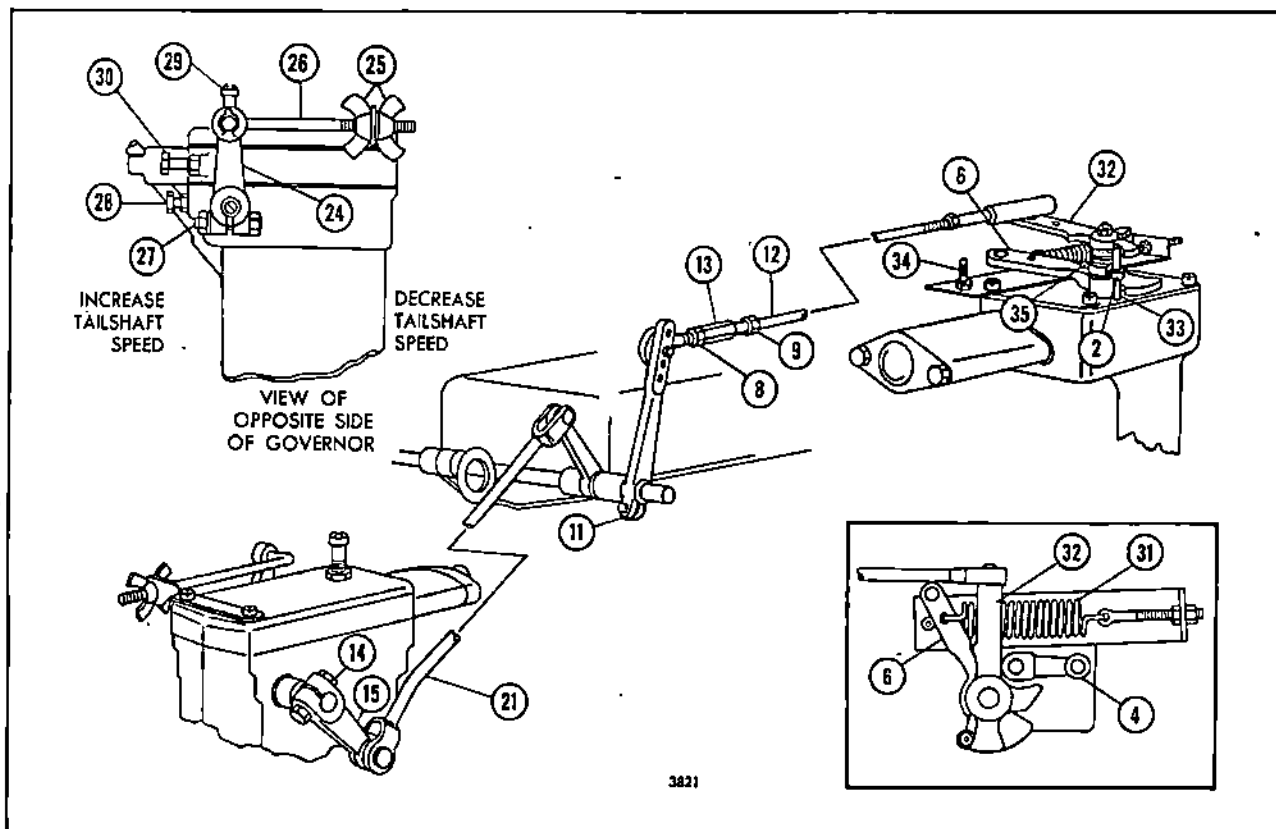
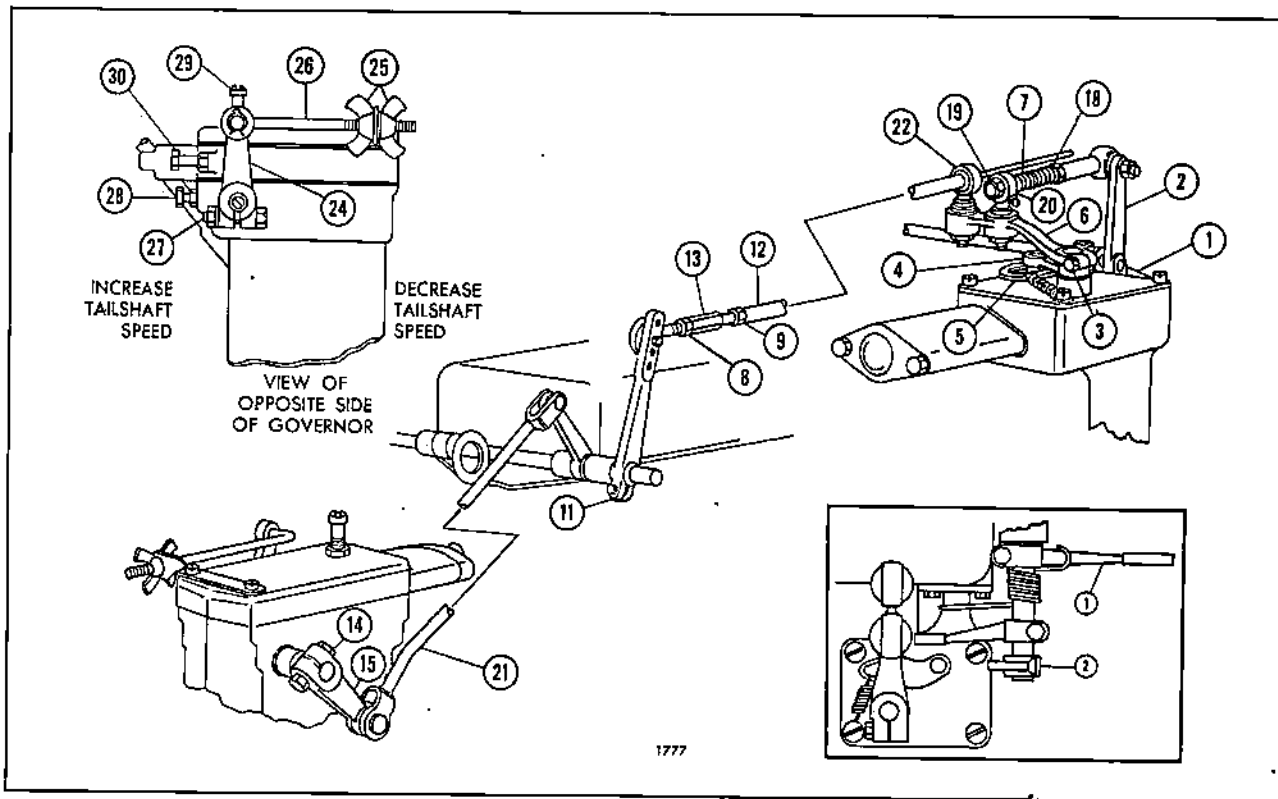

Fig. 22 - Hydraulic Output Shaft Governor and Linkage (Type A)
Fig. 23 - Hydraulic Output Shaft Governor and Linkage (Type B)
The output shaft governor is connected to the engine governor by control rods and levers (Figs. 22 and 23). The control rod end ball joints are sealed assemblies and do not require lubrication. However, the throttle control shaft bearings should be lubricated periodically with all purpose grease through the grease fittings. Other moving parts of the control linkage should be lubricated with engine oil.
In some types of operation, such as laying of structural steel, it is desirable to operate the unit with a very low output shaft speed. This speed could be so low that the output shaft governor ball head assembly would not actuate the governor pilot valve and spring seat assembly. In such applications, the engine governor operating lever (6), Fig. 22, or the remote throttle control lever (1), Fig. 23, used as an overrule lever, can be moved toward the idle speed position sufficiently to provide the desired low output shaft speed. Output shaft speeds down to zero can be obtained through this type of engine governor control. The engine governor would maintain control unless the output shaft speed increased to the speed setting of the output shaft governor.
Adjustments (Type A - Fig. 22)
The engine governor throttle control lever (Fig. 22) is pinned to the throttle shaft. The engine governor operating lever is mounted below the throttle control lever and rides on the throttle shaft boss on the governor cover. The output shaft governor lever is mounted above the throttle control lever and is retained on the shaft by a snap ring. A stop pin, pressed into the throttle control
1. Connect the linkage to the governor operating lever (Fig. 22) and check the total travel of the lever. The lever should move to the stop bolt in one direction and the governor lever return spring should move the lever, in the other direction, until the throttle control lever reaches the end of its travel.
Adjustments (Type B - Fig. 23)
1. Place the remote throttle control lever (1), Fig. 23, in the "MAXIMUM SPEED" position.
2. Move the governor speed control lever (6) and governor stop lever (4) into the "idle" notch in the governor cam (5). The repulsing spring (7) should be fully compressed when the stop lever reaches the "idle" notch of the governor cam.